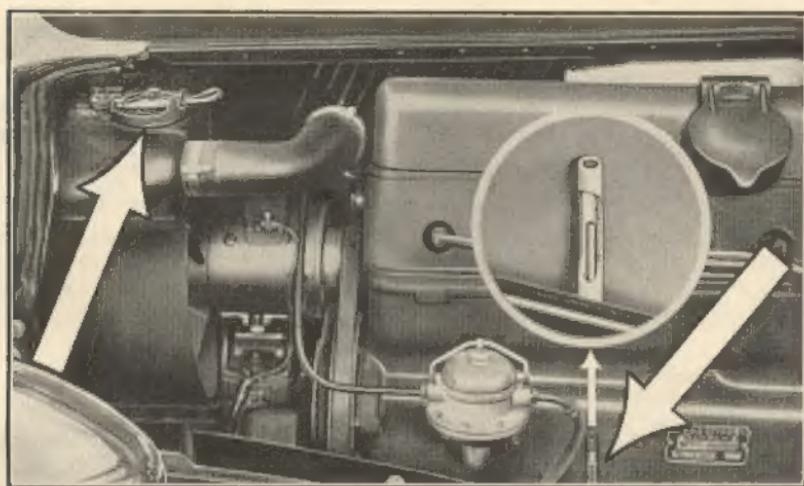

Fig. 1. Radiator Filler Cap and Oil Level Gauge.
1. The oil level in the engine sump. This is indicated by a rod which rises and falls in a tube, the movement being directly controlled by a float in the sump. The top of the rod should be between the lower and intermediate marks (FIG. 1); the top mark indicates the level at which the oil should be kept during the running in period.
2. The water level in the Radiator (FIG. 1). This should be  $1\frac{1}{4}$  inches below the top of the filler neck.